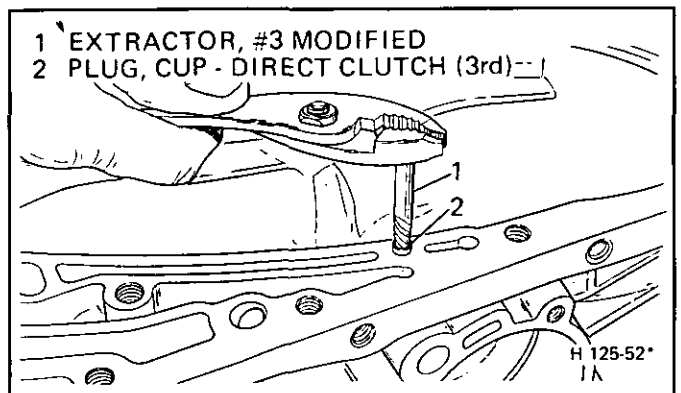

Figure 48 Cup Plug Removal
**Remove or Disconnect (Figure 48)**
- Plug (127) – use #3 screw extractor with 13 mm (1/2") ground off.
- Plug (127) tap until seated in case – use a 6 mm (1/4") rod.
- Manual Shaft oil seal (113) for damage